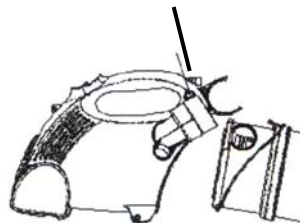

Fig. 7
2. To open the dust cup (container), push button and remove the dust cup (container). (Fig. 7)